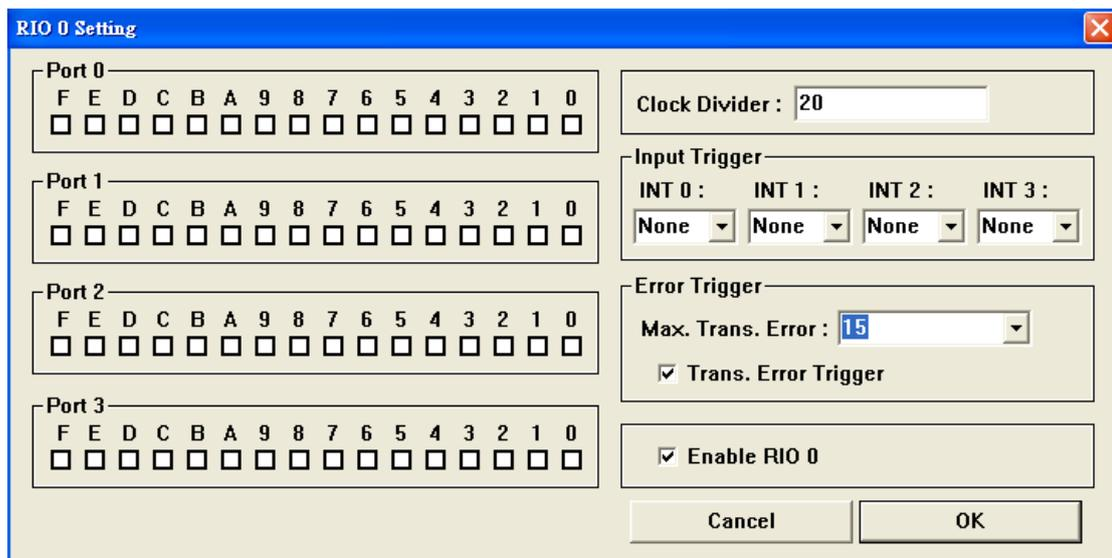

Figure 4-7.3
(4) Set remote I/O maximum transmission error (as shown in Figure 4-7.3)
(5) Set remote I/O transmission error interrupt (as shown in Figure 4-7.3)
(6) Set remote I/O enable status (as shown in Figure 4-7.3)